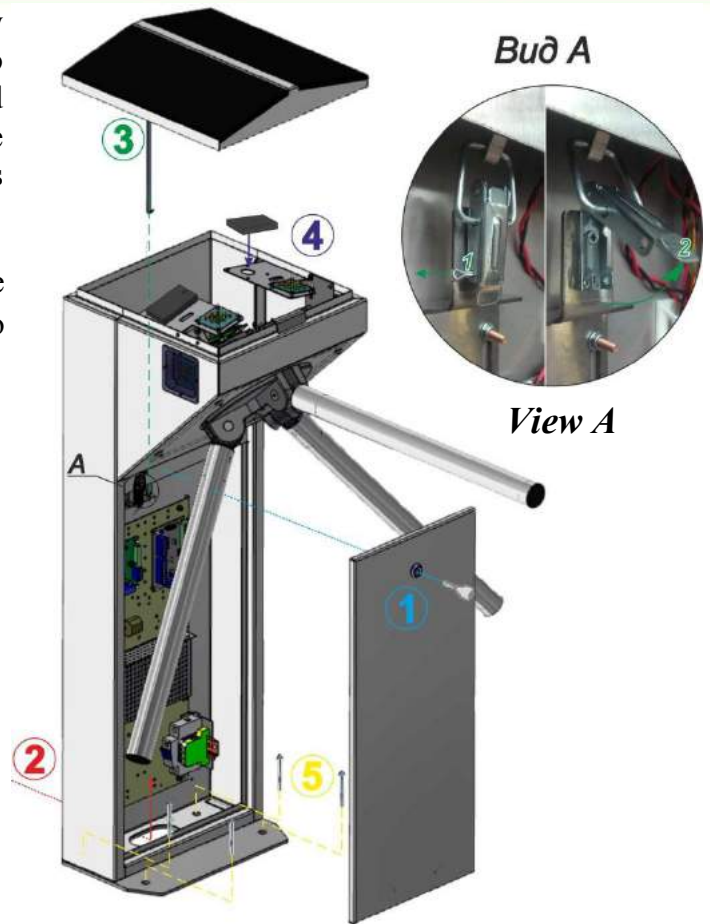
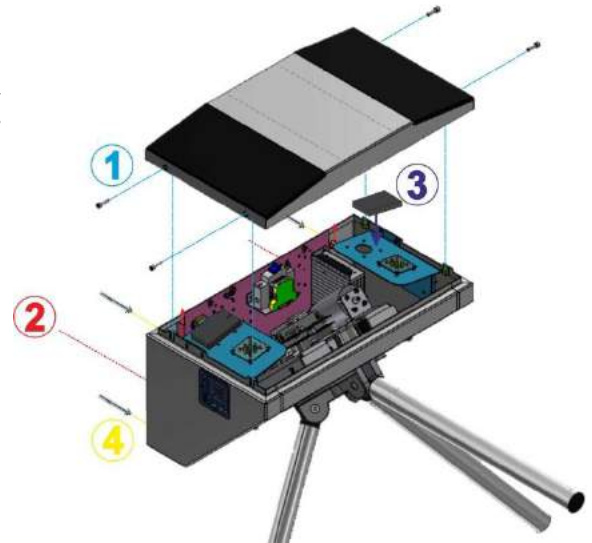

Fig. 15 – General view of the "CENTURION-M" and "BASTION-M" tripod turnstiles assembly
Fig. 17 – General view of the "SKULL-M" tripod turnstile assembly
8) The rack door to be removed by turning the lock key (Fig. 15) to access to the "CENTURION-M" and "BASTION-M" tripod turnstile base fixation and service holes as well as terminal blocks.
The lock pin (1) to be removed and the latch (2) to be opened by lifting it up to remove the rack lid (Fig.15, View A).
- 10) The lid to be removed by unscrewing 4 screws on butt ends (Fig. 15 ) to access to the "SKULL-M" tripod turnstile fixation and service holes as well as terminal blocks (See Fig.17).